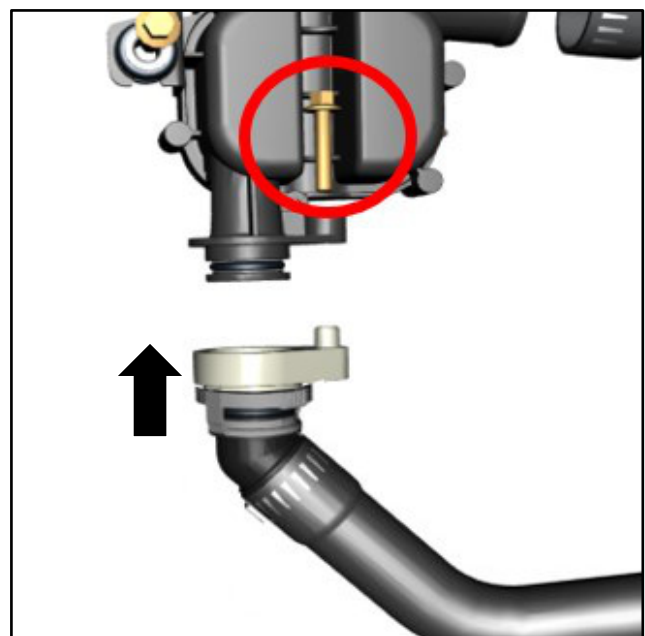

Figure 10
11. Install the adaptor and hose assembly (refer to Figure 10).